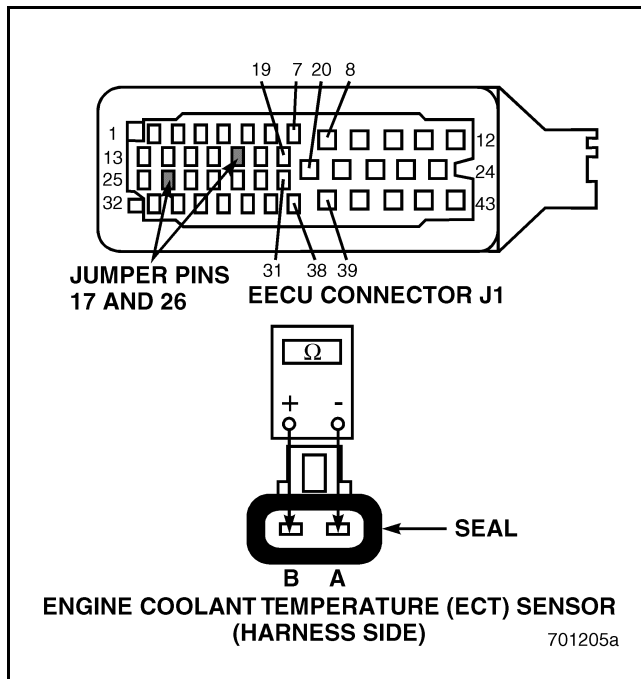

Figure 138
4. Connect a jumper between J1 pin 17 and J1 pin 26 of the EECU harness connector (see Figure 138).